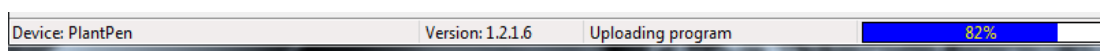

Fig. 19 Upload progress.
- The bottom bar indicates the upload progress (Fig. 19).